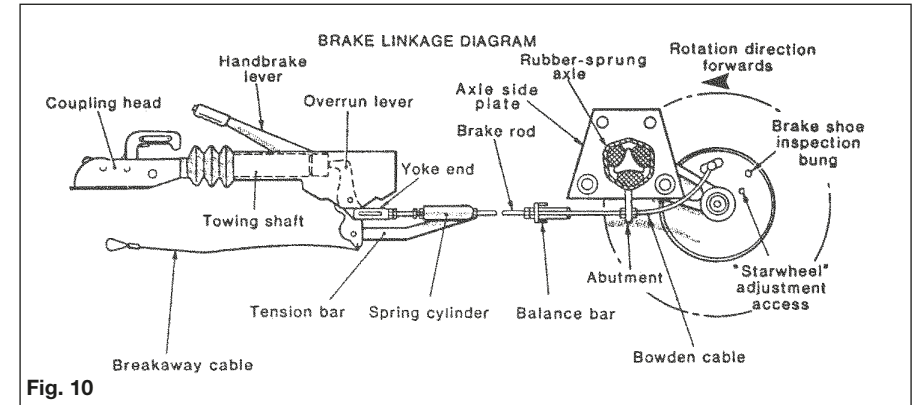
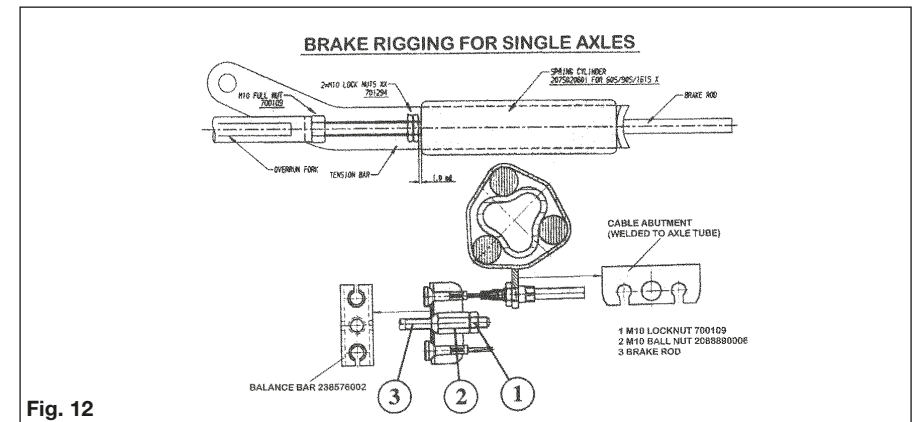

Fig. 10
Fig. 12
1. Ensure the towing shaft with coupling head is pulled FULLY FORWARD. (Fig. 10).
2. Release the handbrake to the FULLY OFF position. If the handbrake will not go down the whole way because of the fairing or any other obstruction; then the fairing must be cut away and/or the obstruction removed to achieve this desired position. It will not be possible to set up the braking system properly when the handbrake is not in the FULLY OFF position. (Fig. 10).
4. Remove the inner plastic bung from the backplate to expose the "starwheel" adjuster access. (Figs. 10 & 11).
When the inner cable is pulled out it should extend between 5 and 8 mm. (Fig.12). (On tandem axles a double abutment (bracket) is fitted to the front axle ONLY).
10. Ensure the balance bar (compensator) is being pulled evenly (Figs.10 & 12). Excessive movement to this bar (double on tandem axles) would indicate possible incorrect adjustment (if appropriate, repeat step No. 7 - Fig. 12).
12. Remove the slack in the brake rod by adjusting the long ball nut, rear of the balance bar, ensuring the overrun lever makes contact with the end of the towing shaft. Note! Over adjustment to the long ball nut (Fig. 12/Item 2) could induce movement of the inner brake cable, reducing the effective clearance of the brake shoes. If the overrun lever will not make contact, it is possible the two lock nuts, forward of the spring cylinder, are incorrectly adjusted. Loosen the nuts and adjust brake rod as above (Figs. 10 & 12).
13. Adjust the two locking nuts, forward of the spring cylinder (Fig. 10), (on some chassis a single Nyloc nut is used) to give 1 mm of clearance on the spring cylinder. This cylinder (the energy store for the handbrake operation) must be able to rotate ONLY, not slide on the brake rod. (Fig. 12). **(If the overrun assembly is fitted with a gas strut handbrake then no spring cylinder is fitted - therefore ignore this paragraph).**